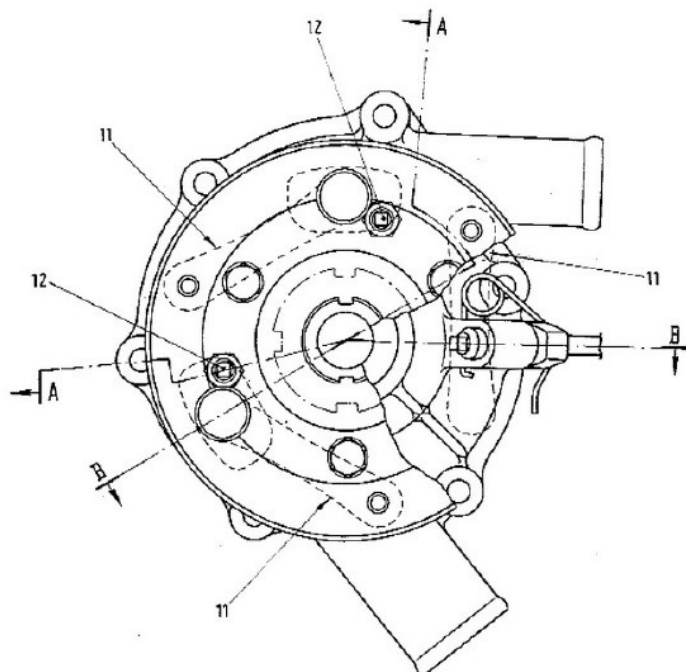

Fig. 58.
- slacken the three lock nuts of air gap adjustment screws (12, fig. 58);
- tighten **slightly** the three screws (12, fig. 58) in order to move electromagnet armature against the yoke;